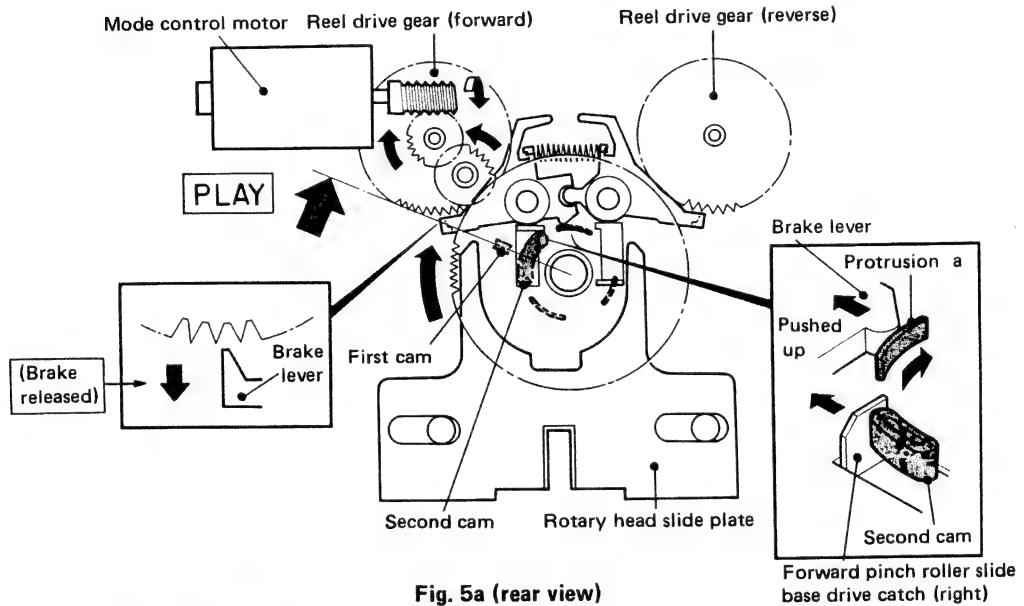

Fig. 5a (rear view)
- 1) When the play button is pressed, the controller issues an instruction to turn the cam disc plate in the direction of the arrow as shown in Fig. 5a.
- 2) Thereby, the second cam on the cam disc plate pushes up the drive catch of the forward pinch roller slide base (right). When the cam disc plate turns to the position shown in Fig. 5a, the play (forward) mode code is generated by its associated code pattern. When the controller detects this code, it works to stop the mode control motor.
- a) As the brake cam is at the non-braking position as shown in Fig. 5a, the brake is released.